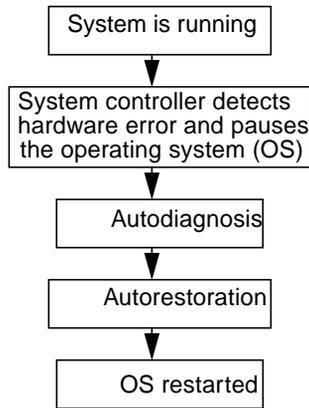

FIGURE 5-1 Auto Diagnosis and Recovery Process
Depending on the type of hardware errors that occur and the diagnostic controls that are set, the system controller performs certain diagnosis and recovery steps, as FIGURE 5-1 shows. The firmware includes an *autodiagnosis* (AD) engine, which detects and diagnoses hardware errors that affect the availability of a server.
The following summary describes the process shown in FIGURE 5-1: